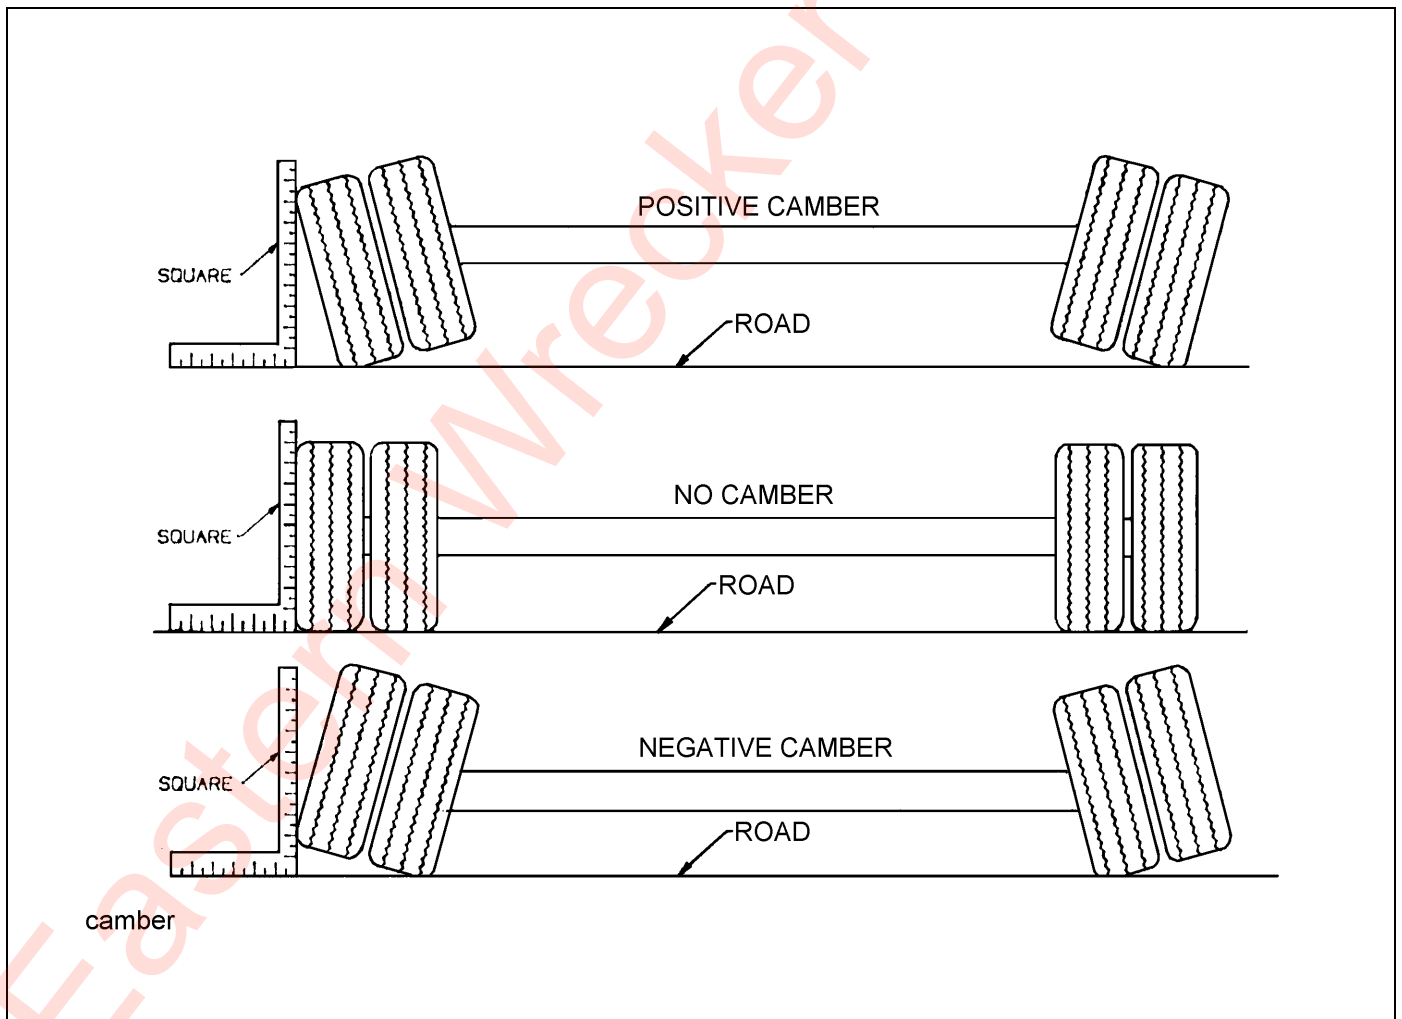

Figure 4-7: Examples of Camber
4. Follow the same procedures as in steps 2 and 3, except place the axle gauge above and below the axle. If gauge point gap is found, the axle has positive or negative camber. The trailer axle has no camber from the factory. If it is found to have positive or negative camber, axle replacement is necessary. See Figure 4-7 for examples of camber.